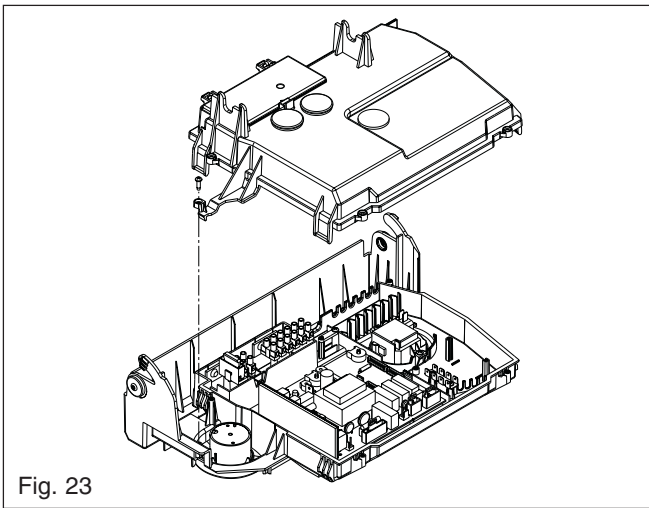

Fig. 23
6.12 PRINTED CIRCUIT BOARD fig. 23
Locate and remove the PCB cover and securing screws (fig 23/23A), locate and remove the time clock retaining screws, remove time clock. Disconnect wiring after carefully taking note of all electrical connections. Replace in the reverse order.